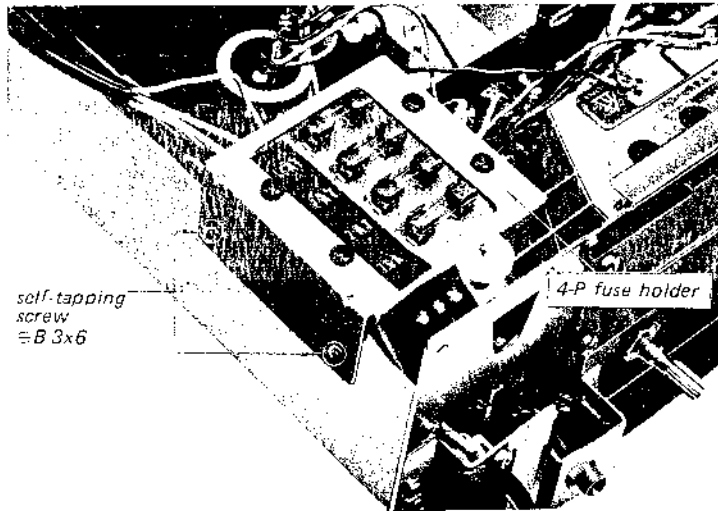

Fig. 2-17. 4-P fuse holder removal
2. Remove the two self-tapping screws (#B3x6) securing the 4-P fuse holder to the chassis as shown in Fig. 2-17.